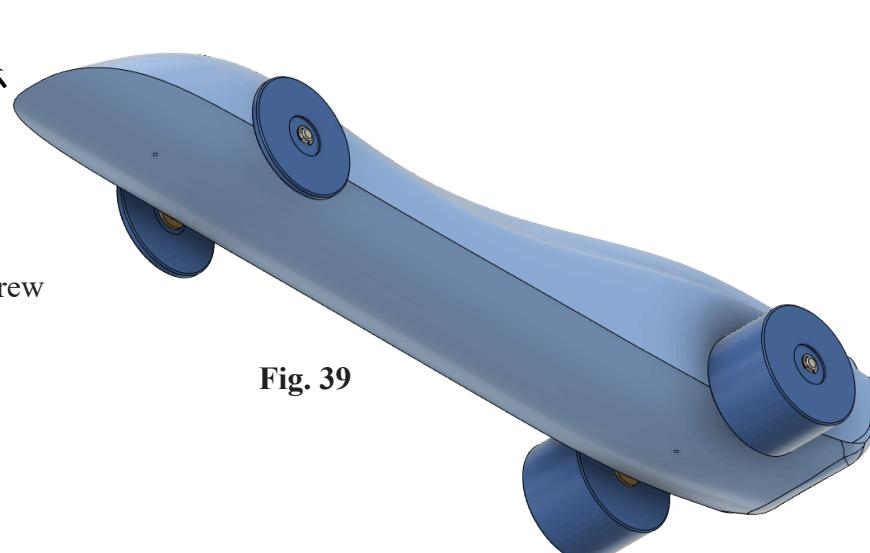

Fig. 39
Step 2. Drag **Eye Screw** from Data Panel onto the canvas, Fig. 39.